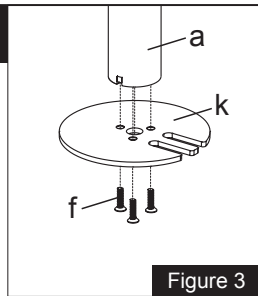

Figure 3
1. Install the Grommet Base Plate(k) to the Pole(a) using 3pcs M5x14 Bolts(f), and tighten using the Allen Key(m), see Figure 3.